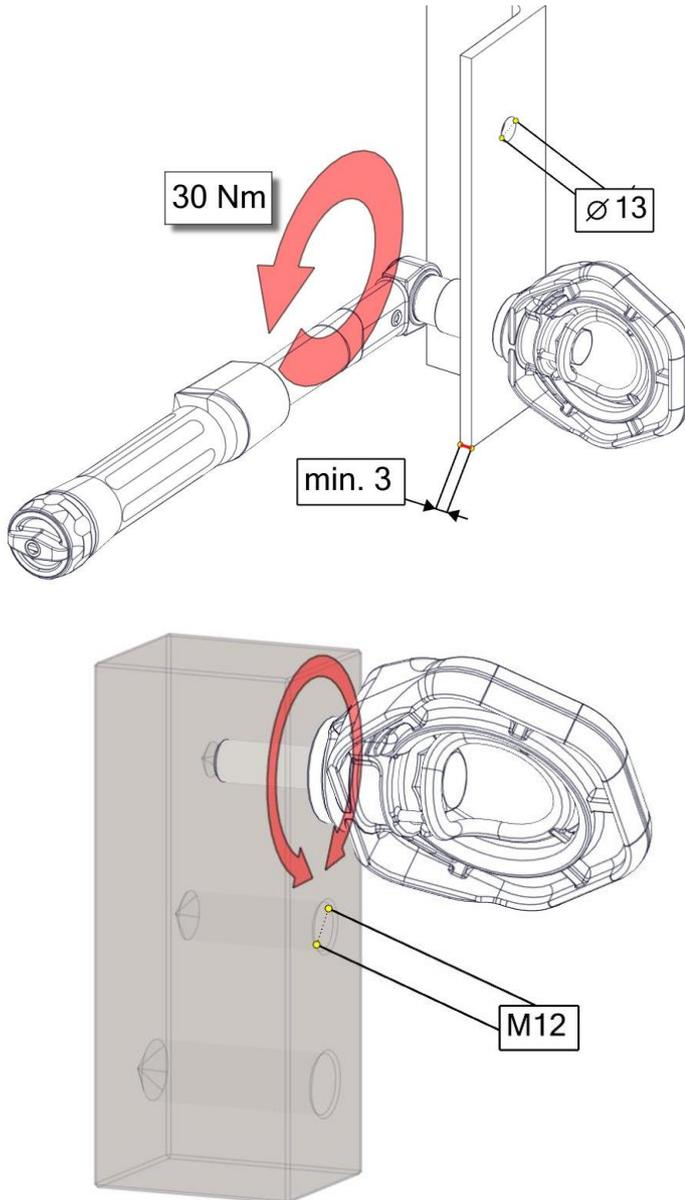

Figure 4. Installation of anchor point
- Example installations are shown in Figure 4